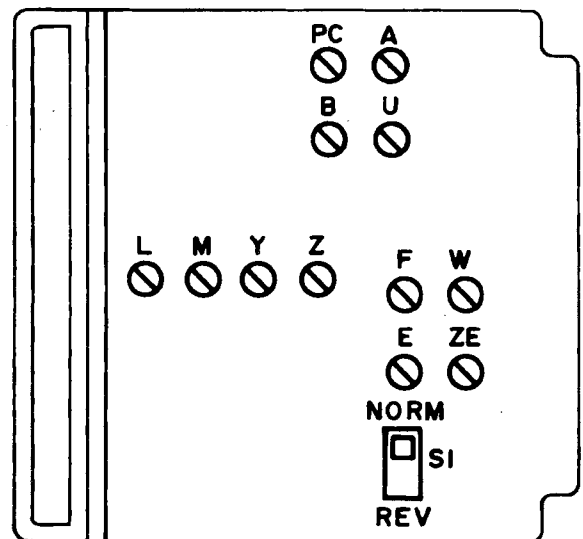

Figure 4. 7350 Switch and Screwdown Option Locations
7.01 To condition the 7350 for loop-start operation, close screw switches F and A and open screw switches B, E, and W. If loop start with reverse battery answer supervision or premonitory busy operation is desired, close options F and B and open options A, E, and W. In addition, place switch S1 in the NORM position. Refer to Figure 4 for the relative location of each option.